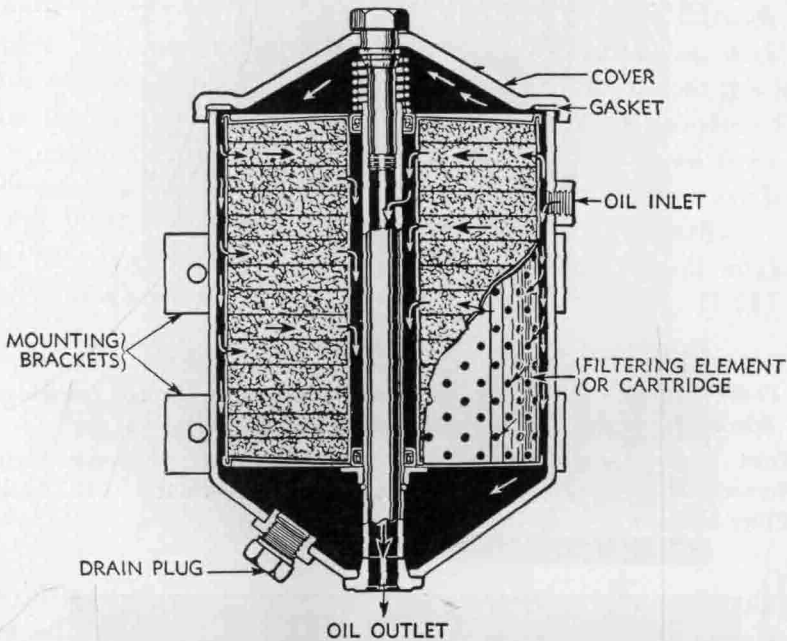

FIG. 11-25. Oil filter with replaceable filtering element (or cartridge).
1. *Bypass filters.* The bypass oil filter (Figs. 11-25 and 11-26) is in most common use. The supply line from the oil pump is so connected as to permit only part of the oil passing through to flow to the oil filter. The remainder of the oil bypasses the oil filter and